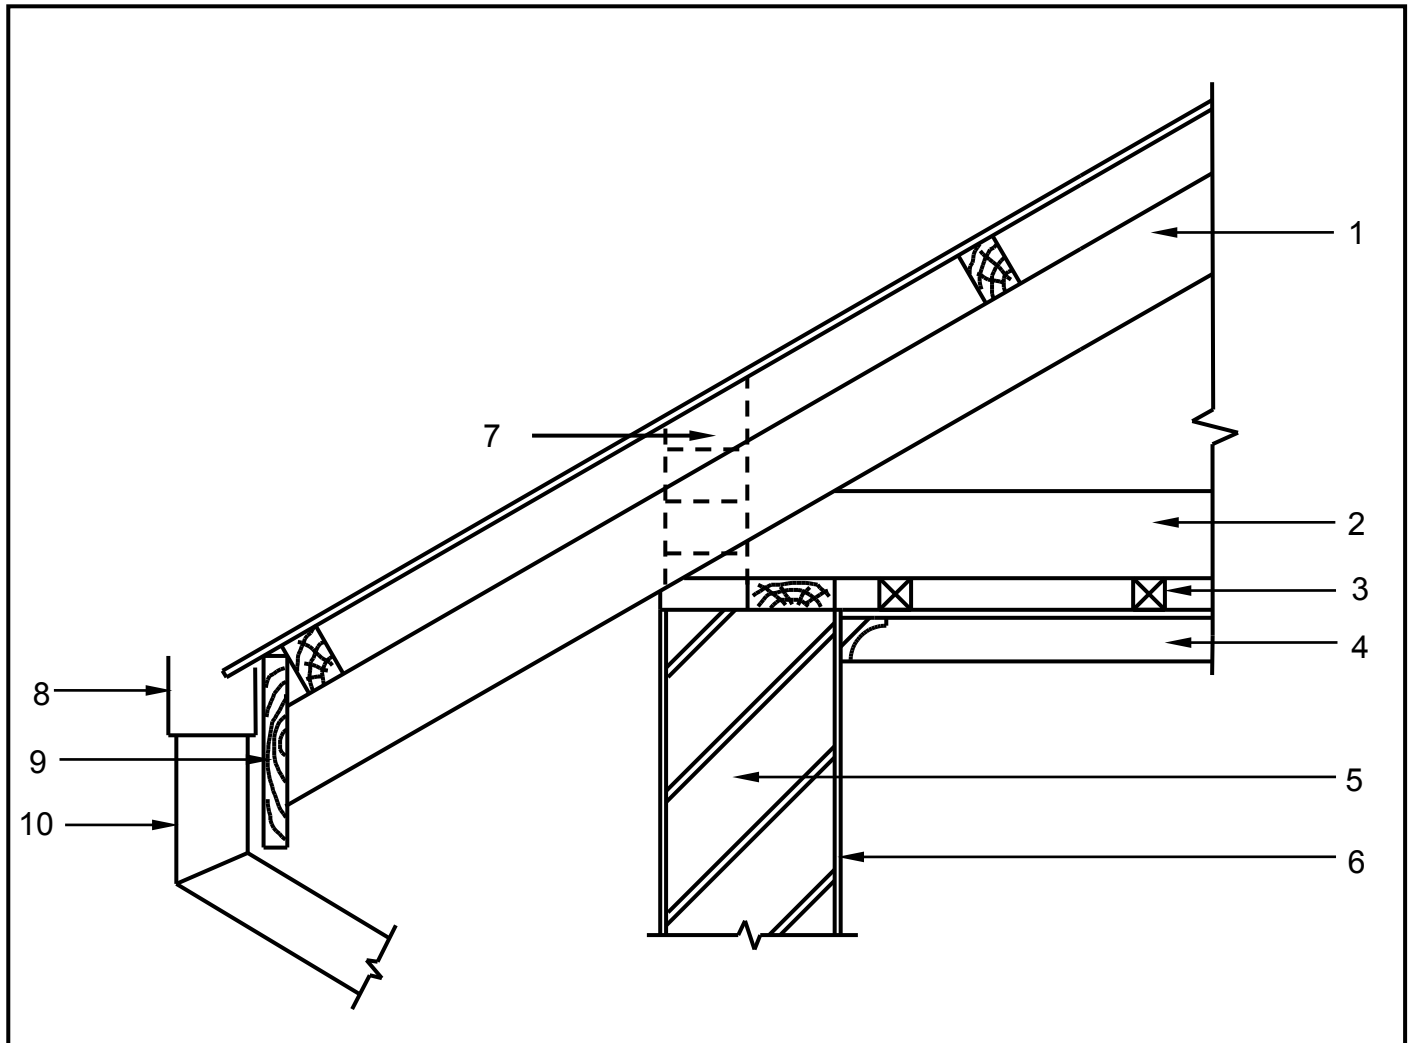

FIGURE 6.1
6.1 FIGURE 6.1 below illustrates a detailed sectional view of the foot of a king post roof truss. Study the drawing and complete the table on ANSWER SHEET 6.1.